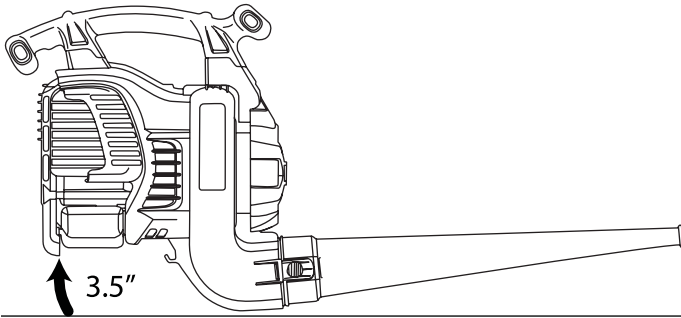

Fig. 22
2. Place the engine on a level surface (Fig. 22).